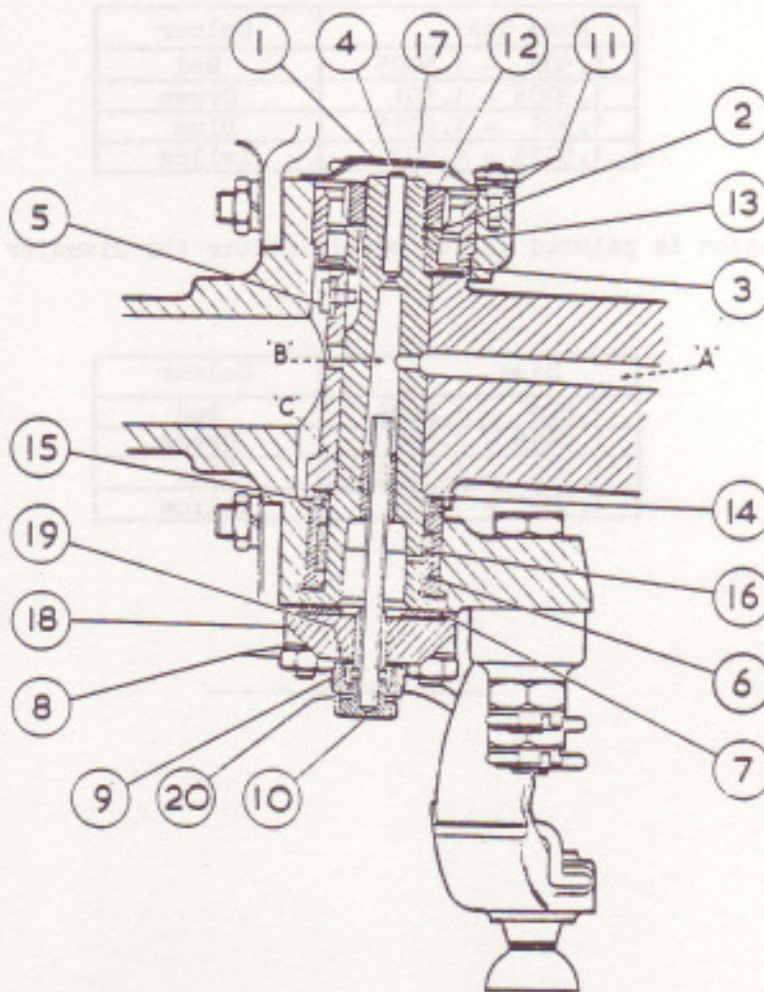

FIG.4 SECTION - PIVOT AXLE.(PIVOT PIN & BEARINGS).
Oil under pressure from the centralised chassis lubrication system is delivered by an external brass coiled pipe, connected at one end to a 3-way junction, situated on the torque arm and at the other end to a non-restricted elbow fitted to the front of the yoke from where the oil passes through an oil passage in the yoke ('A' Fig.4), which registers with an oil hole in the pivot pin (17), and fills the "reservoir" ('B') in the pin. A dowel screw (5 Figs.4 & 5) is provided for correctly positioning the pivot pin in relation to the oil passage in the yoke. Oil from the "reservoir" is supplied to the upper roller bearing (13) through the clearance between a loose restricting pin (4) and the internal bore in the upper end of the pivot pin, the clearance being so arranged to meter the correct amount of oil. Oil from the same source is supplied to the lower needle roller bearing (16) and the thrust washer (7) via a non-removable press fit brass sleeve ('C' Fig.4) fitted near the lower end of the pin. The inner bore of this sleeve provides metering clearance between itself and the outer diameter of the oil feed tube (10).
It will be seen upon reference to Fig.4, that the oil feed tube (10) projects upwards into the hollow pivot pin. Oil from the "reservoir" passes through the tube to a banjo connection (9) and then via an external brass pipe to the outer ball joint of the cross steering tube.
- (v) Remove the top cover (1, Figs. 4 & 5) and the restricting pin (4). Straighten the tabs of the lockwasher (2) and remove the nut (12) from the pivot pin, using box spanner, 1660/T1005. Remove the plug (10). Carefully bend the brass lubrication pipe (situated beneath the stub axle) clear of the bottom cover (18), and remove the cover and the thrust washer (7).
- (i) As a precautionary measure, ascertain that the dowel screw (5) fitted to the yoke is tight.
- (ii) With the lip of the oil trough (3) uppermost, place it into position against the upper outer race as shown in Fig.4. Place the metal packing ring and felt washer sub-assembly (14 & 15) in the recess provided in the yoke as shown in Fig.4, i.e. with the packing ring against the yoke. Renew the felt washer if necessary and soak in oil before fitting.
- (iii) With the $\frac{3}{4}$ needle rollers in position in the lower bearing, place the stub axle on to the yoke, taking care not to displace or ruffle the felt washer. Enter the pivot pin, (the pin has a taper of 1 in 200 on dia.) as far as it will go by hand, which will require careful sighting upon entering, in order to make sure that the narrow slot in the top of the pivot pin is lying in a radial line with the dowel screw (5). Precaution must be taken not to damage the dowel screw when entering the pin in the yoke, especially when tapping it fully into position, i.e. the narrow slot in the pin must correctly engage with the dowel screw. The pin must be driven in until the shoulder on the pin makes contact with the corresponding shoulder in the yoke.
- (iv) Tap the new roller and cage assembly squarely into position on the pivot pin, taking care not to allow the rollers to score the roller path of the outer race, fit a new lockwasher (2), tighten up the nut (12), using the box spanner 1660/T1005, but do not bend up the tabs of the lockwasher at this stage. (See Sub-paragraph vii).
- (v) Lubricate and place the thrust washer (7) into the recess in the bottom cover.